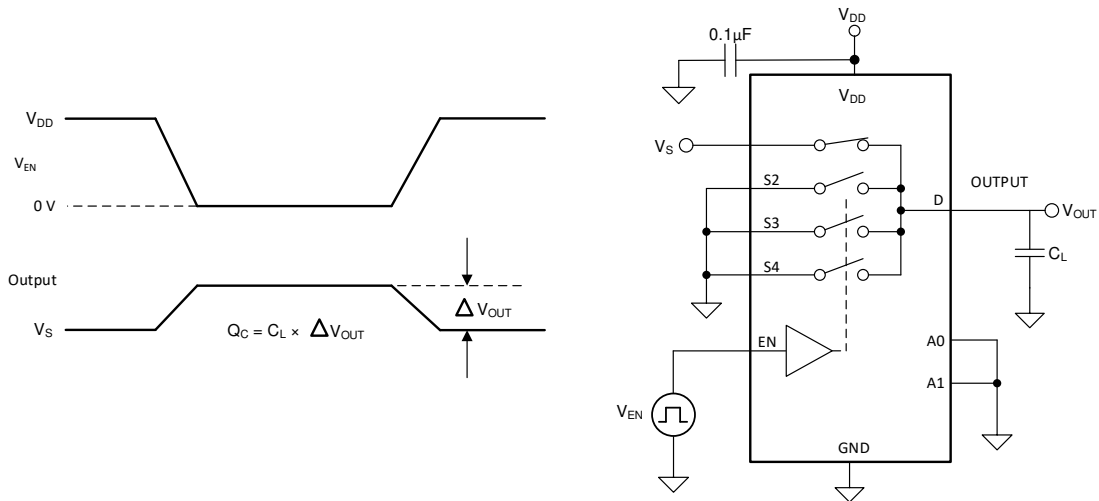

Figure 6-7. Charge-Injection Measurement Setup
The TMUX1104 has a transmission-gate topology. Any mismatch in capacitance between the NMOS and PMOS transistors results in a charge injected into the drain or source during the falling or rising edge of the gate signal. The amount of charge injected into the source or drain of the device is known as charge injection, and is denoted by the symbol  $Q_C$ . Figure 6-7 shows the setup used to measure charge injection from source (Sx) to drain (D).